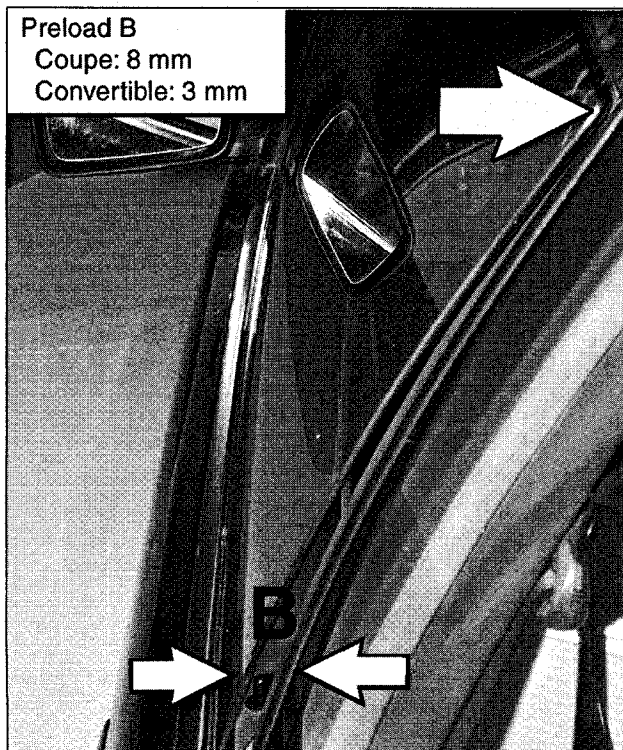

Fig. 19. With top of glass against door seal (**top arrow**), measure preload **B** at 20 mm (0.75 in.) above top of door.
4. To set window preload B (See Fig. 19.):
- B (Refer to Fig. 19.)